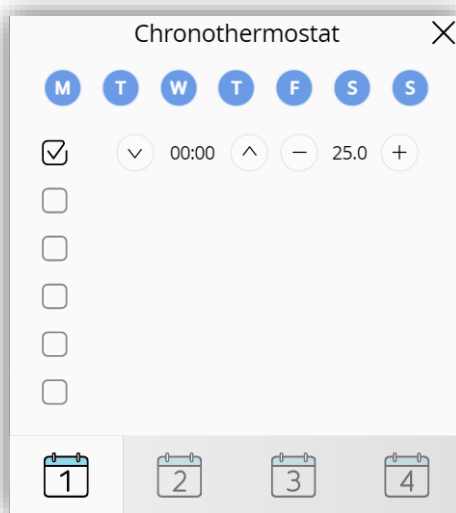

Figure 120. Chronothermostat panel
- **Minimum Setpoint Value** [-99 ... 18 ... 199][°C]: minimum setpoint value that the user can be set on the chronothermostat panel (see Figure 120).
- **Maximum Setpoint Value** [-99 ... 30 ... 199][°C]: maximum setpoint value that the user can be set on the chronothermostat panel (see Figure 120).